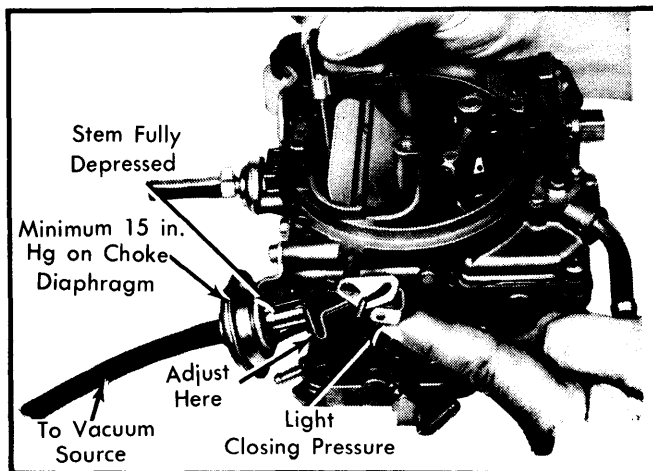

Fig. 5 Adjusting Vacuum Kick
- 1) Open throttle valve and close choke. Release throttle to hold fast idle cam in fast idle position. See Fig. 5.